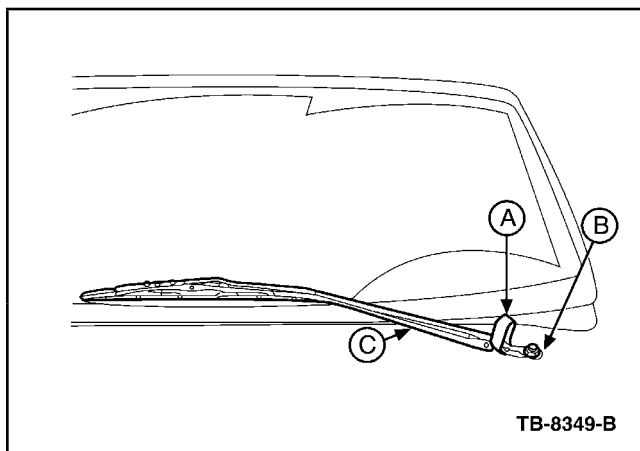

Figure 1 - Article 05-23-7
1. Remove the wiper pivot arm (Figure 1).